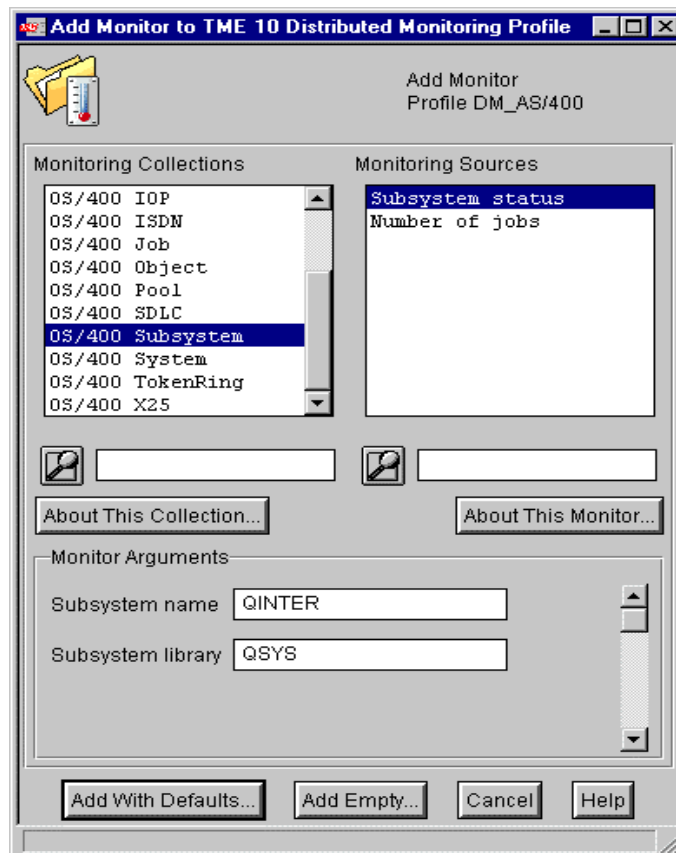

Figure 274. Choosing a monitor collection and source
4. Click on the **Add Monitor** button to add a new monitor. This option will open the Add Monitor screen shown in Figure 274.